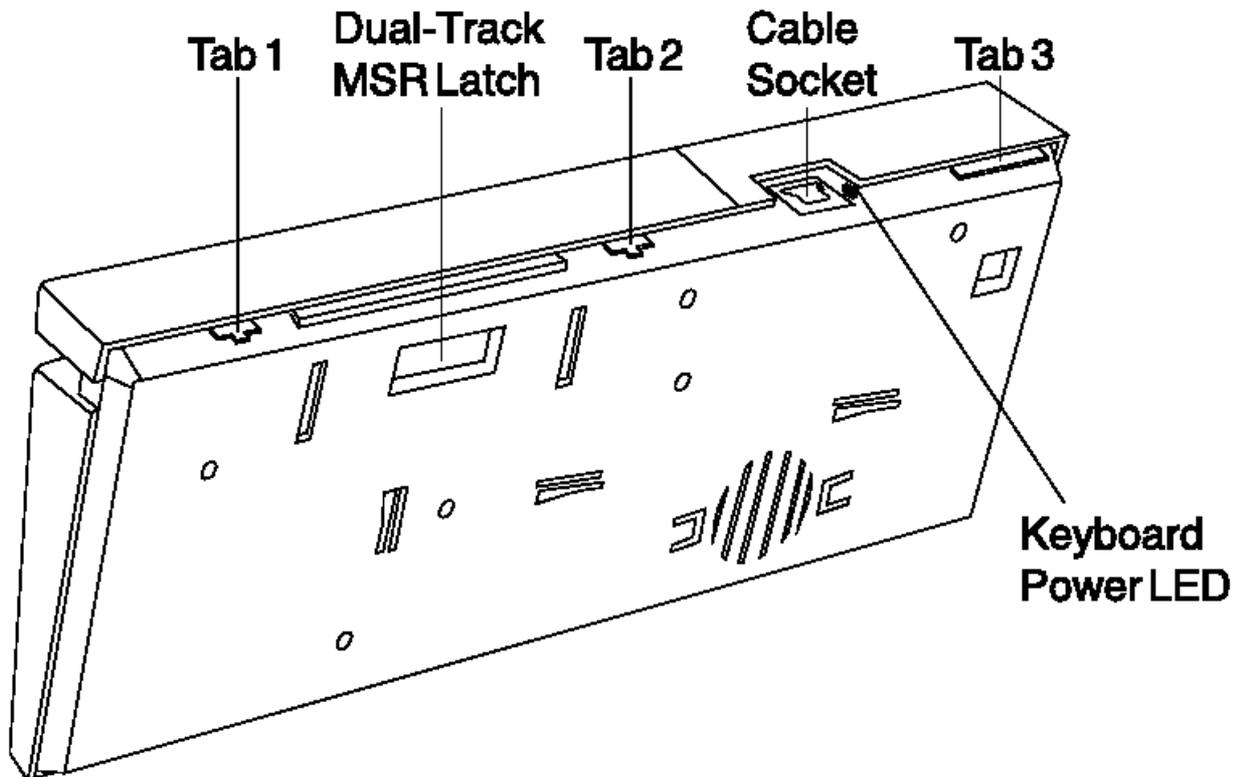

Figure 4-10. Removing the Keyboard Cover
2. Unlatch keyboard cover tabs 1, 2, and 3, in that order. See Figure 4-10 in topic 4.3.5.8.